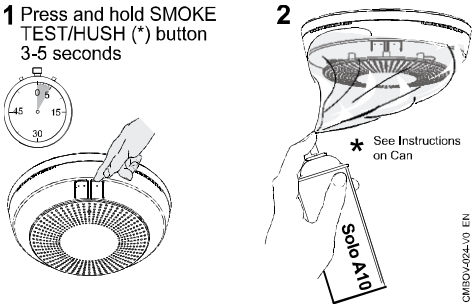

Figure 7. 5800CMBOV Smoke Functional Test
3. Spray a very small amount of canned Smoke directly into the 5800CMBOV (Refer to Figure 7).